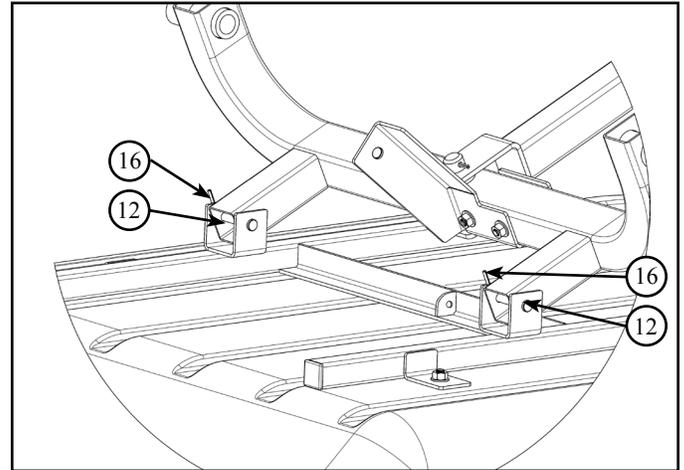

Figure 3.13- Secure Axle Frame to Bed Frame
2. Insert hinge pin (12) through each pivot bracket and secure each with a hairpin cotter (16). Refer to Figure 3.13